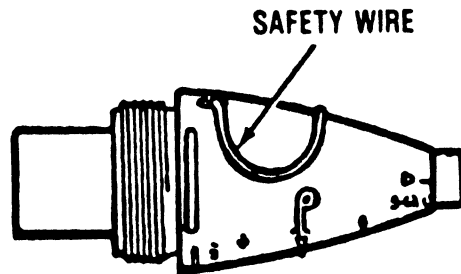

Fig 3-9. M524 Series Fuze.
- (1) The M524 Series Fuze (fig 3-9), has two function settings: superquick (SQ) and delay (D). When set at SQ, the fuze functions on point impact or graze contact. When set at D, the fuze train causes a 0.05 second delay before functioning.